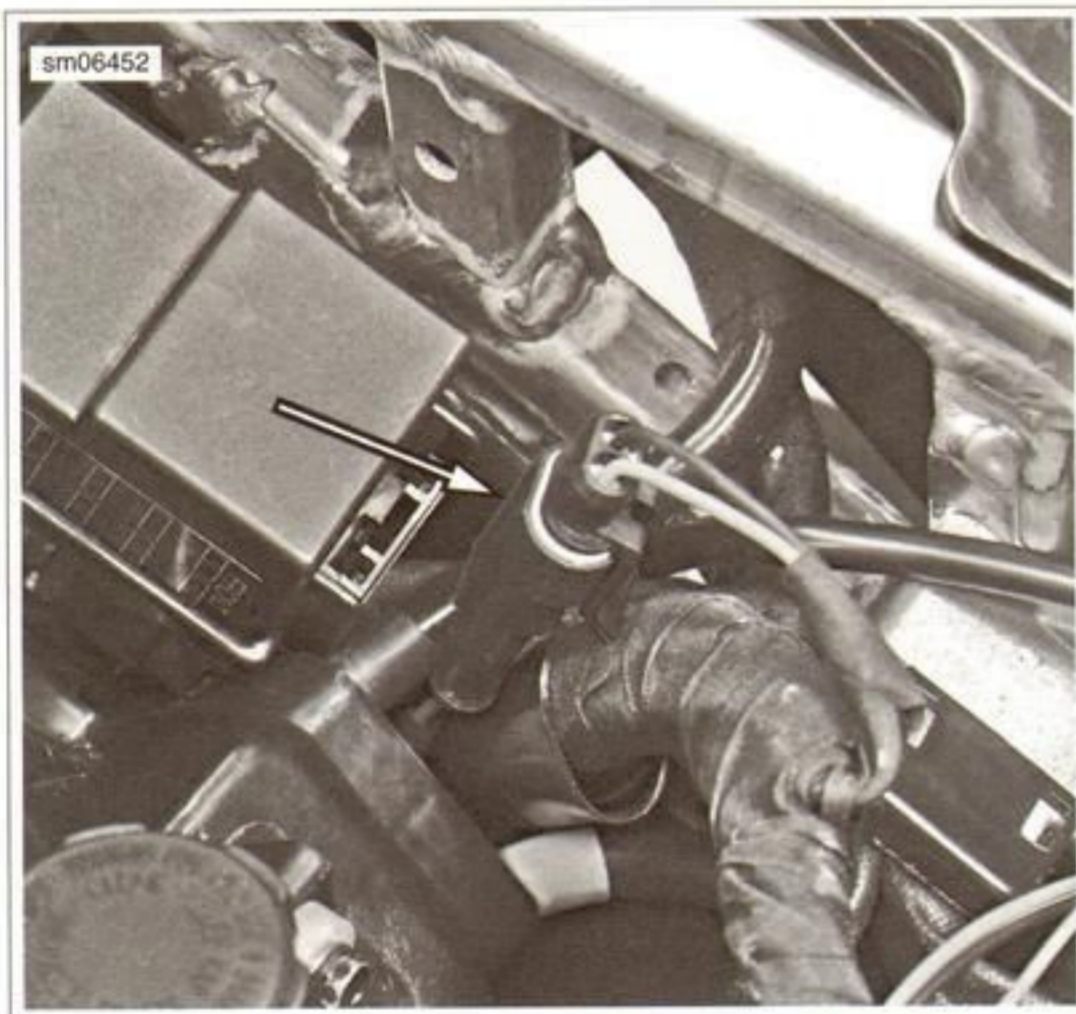

Figure 7-19. Solenoid Connector [128]
3. See Figure 7-19. Separate the solenoid connector [128] housings.